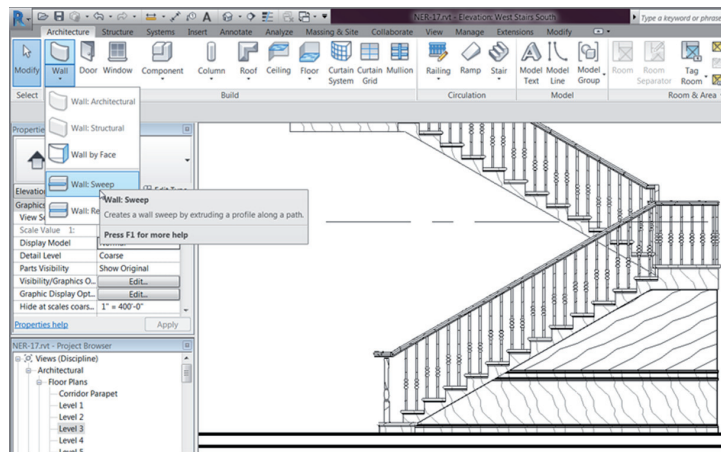

FIGURE BC1.16: Choosing the Wall Sweep command
1. Go to the elevation shown in Figure BC1.16 (the first one you placed, looking at the stairs).
2. On the Architecture tab, click the down arrow on the Wall button, and select Wall Sweep (see Figure BC1.16).